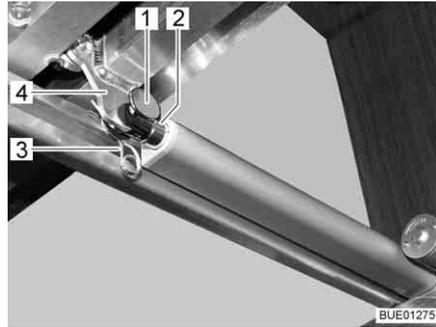

Fig. 133 Drive
- Remove the connection (e.g. pin and cotter pin (Fig. 133,1 and 3)) between the push rod (Fig. 133,2) and the slatted frame (Fig. 133,4).